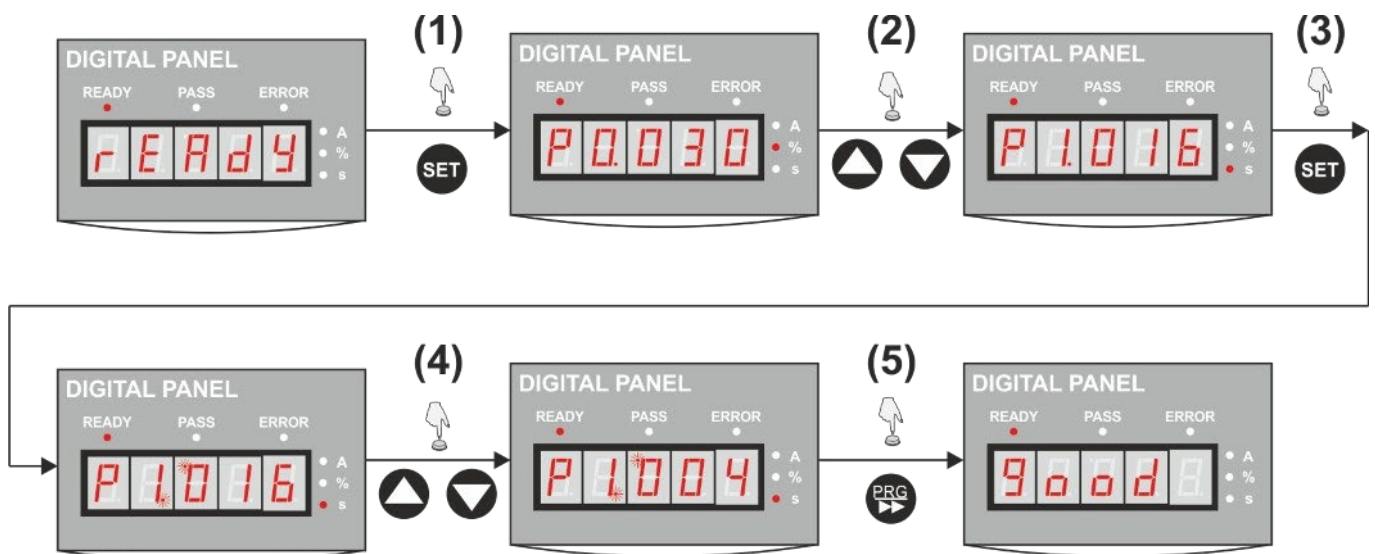

Fig. 18: Parameter editing diagram
The diagram showing how to edit the soft-start configuration parameters is shown in Fig. 18. To enter edit mode, press the **SET** button (1). The display will show the code of the current parameter in the form Px.yyy, where x is the parameter code and yyy is the parameter value. Use the **Up/Down** buttons (2) to select the desired parameter number, then press the **SET** button (3) again. This will enter the edit mode for the selected parameter, which is indicated by the parameter edit LEDs flashing. Use the **Up/Down** buttons (4) to set the desired parameter value, then confirm the change by pressing the **PRG** button (5). Successful editing and saving is confirmed by the display of the message GO-